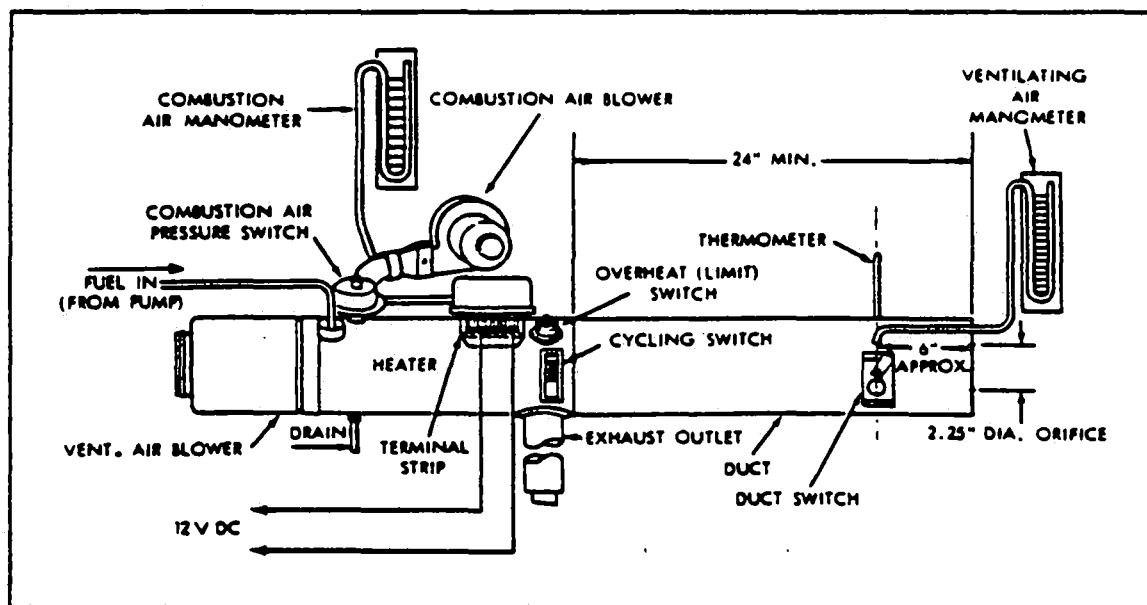

Figure 13-27. Suggested Set-Up for Heater Operation Test
m. Using a new spark plug gasket, install the spark plug (22) and tighten to a torque of 28 foot pounds. Install the grommet (23) in the jacket around the spark plug.
n. Install the ignition assembly (18) on the jacket assembly (84) with the four screws (20) and lockwashers (21). Connect the high-voltage lead to the spark plug and tighten it to 20 foot pounds.
o. Attach the radio-noise filter (24) to the jacket assembly (84) with the two screws (25) and lockwashers (26).
p. Attach the overheat limit switch (27) and spacer gaskets (31) to the jacket assembly (84) with the two screws (28), lockwashers (29) and flat washers (30). Tighten the screws securely.
q. Attach the cycling switch (32) to the jacket assembly (84) with the two screws (33), lockwashers (34) and flat washers (35).
r. Place the terminal strip insulation (39) in position on the jacket (84), followed by the terminal strip (36). Secure both parts by installing the two screws (37) and lockwashers (38). The two screws are located at two diagonal corners of the terminal strip.
s. Center the fuel fitting in jacket opening. Place the fuel fitting shroud gasket (46) and shroud (43) on the fuel fitting and install the nut (44) finger tight. Insert a 3/4 inch open-end wrench inside the jacket and hold the fuel-tube fitting while tightening the nut (44) with a 3/4 inch deep socket. Install the reducer fitting (42).
t. Rotate the combustion air switch (41) onto the threaded fitting on the combustion air tube and tighten it firmly.
u. Slide the grommet (47) over the combustion air tube and connect the tube to the elbow fitting (40) on the combustion air pressure switch (41).
v. Install the wiring harness and connect all wire leads to their respective terminals. (Refer to the wiring diagram, Figure 13-19.) Place the grommet (47, Figure 13-27) in position in the jacket (84), locate the ventilating air blower (49) at the end of the jacket. Thread the quick-disconnect on the wiring harness through the grommet (47) and connect it to the mating connector on the motor lead.
w. Place the blower housing in position on the jacket assembly (84) and secure it by installing the four screws (48), if removed at disassembly. This operation is easier if the screws (48) are started into their threads and the blower housing rotated into place, allowing the screws to enter the notched openings in edge of blower housing. Tighten all screws securely.
x. Install the elbow adapter (3) with the screw (4).
13-119. EQUIPMENT REQUIRED. (Refer to Figure 13-27.)
- f. A piece of duct to be attached to the downstream end of the heater. It should have a minimum length of 24-inches and the same diameter as the heater being tested. A 2.25-inch diameter orifice should be centrally located at the outlet end. An aperture should be provided for the thermometer and duct switch, and a static tap should be attached as shown in Figure 13-27.
#### 13-120. OPERATIONAL TEST. (Refer to Figure 13-27 and 13-28.)
- a. Connect the heater to the test setup as shown in Figure 13-27. Make sure the combustion air blower is mounted securely and that the heater is clamped to its supporting stand.
- b. Insert the duct switch in the sheet-metal extension tube at the location shown in Figure 13-27.